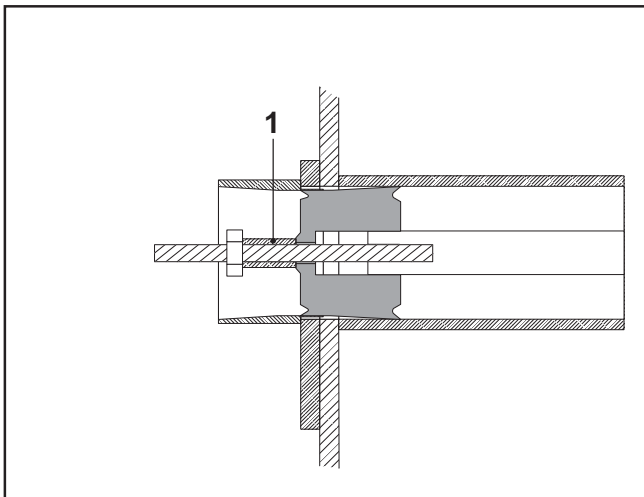

FIG.49
- To make the piston reach the piston rod (FIG.49/50-REF. 1) apply the spacers and keep tightening the nut.